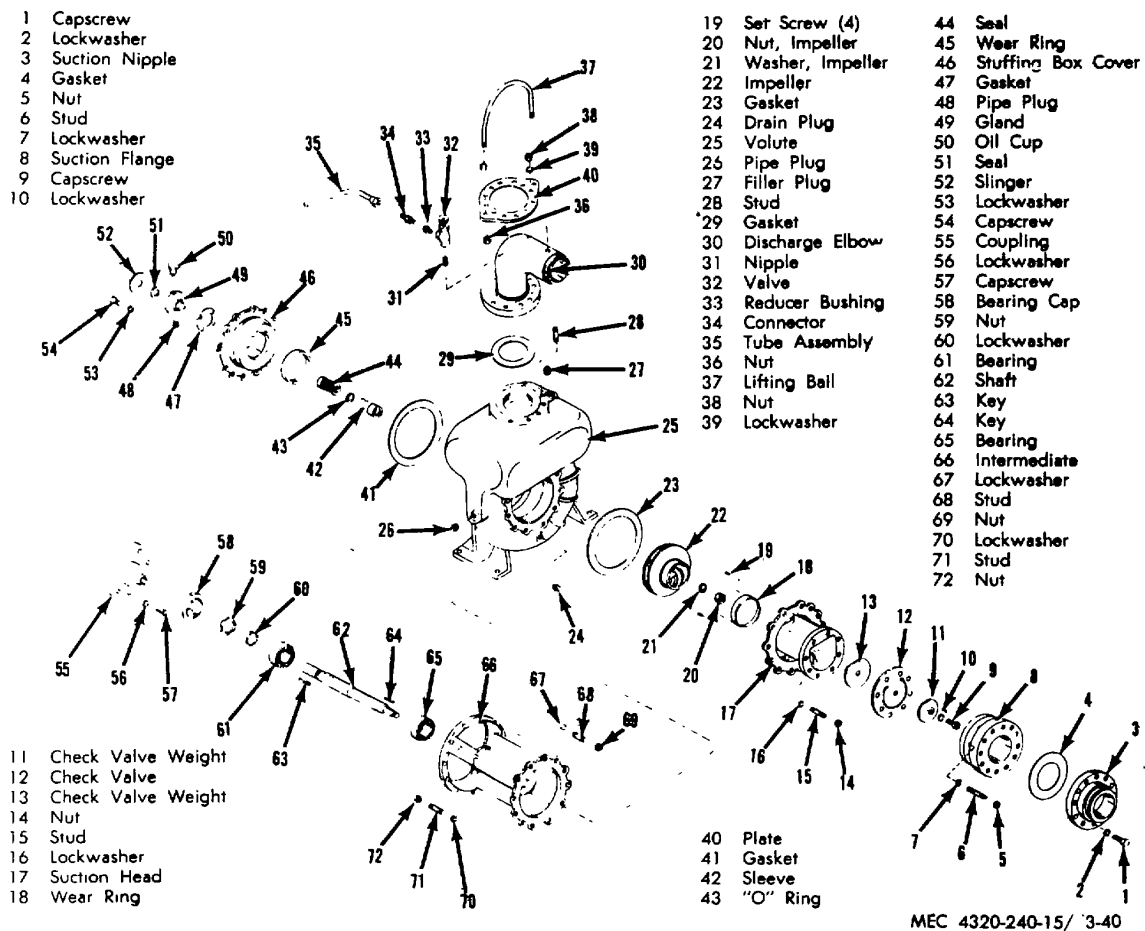

Figure 3-40. Water pump exploded view.
- (1) Unscrew union and disconnect intake and discharge pressure lines (1) and (4).
- (2) Remove mounting capscrews (3).
- (3) Remove nuts (2).
- (4) Lift front of pump and slide pump assembly away from engine.
d. **Disassemble.** Refer to figure 3-40 and disassemble pump.